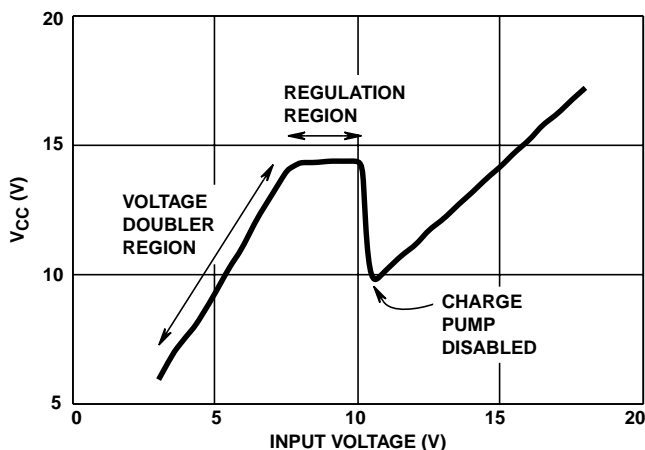
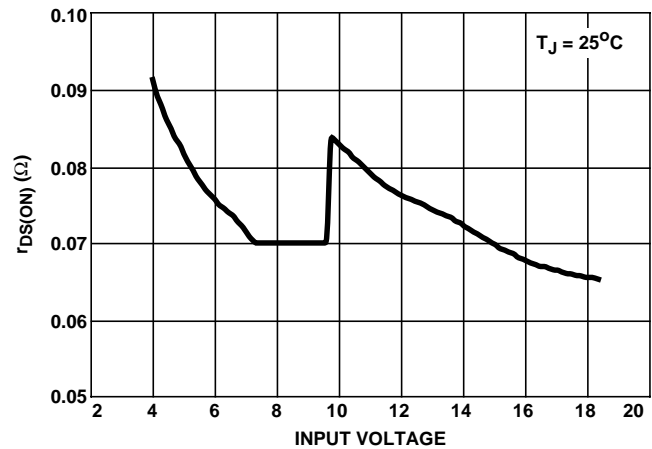
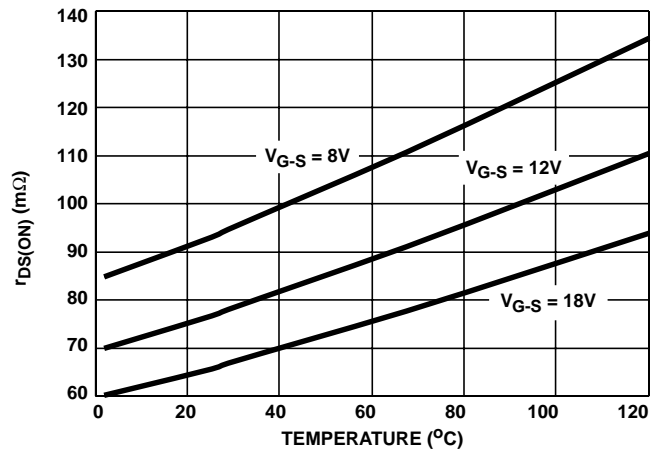

FIGURE 10. CHARGE PUMP REGULATOR INPUT VOLTAGE CHARACTERISTICS
FIGURE 14.  $r_{DS(ON)}$  vs INPUT VOLTAGE
FIGURE 15.  $r_{DS(ON)}$  vs JUNCTION TEMPERATURE
The charge pump regulator supplies control power ( $V_{\text{CC}}$ ) to the internal functions of the HIP5020. The charge pump operates for input voltage levels below 9.8V and is disabled for input voltages above 9.8V. Figure 10 shows the charge pump output voltage ( $V_{\text{CC}}$ ) as a function of the input voltage ( $V_{\text{IN}}$ ). For input voltages below 9.8V nominally, the charge pump operates in two regions - as a voltage doubler and as a voltage regulator. The charge pump operates as a normal voltage doubler when  $V_{\text{CC}}$  is below approximately 14.8V. The charge pump limits  $V_{\text{CC}}$  to approximately 14.8V in the regulation region. For input voltages above 9.8V, the charge pump is disabled and  $V_{\text{CC}}$  follows the input voltage less a diode drop.
Conduction losses are a significant portion of the power dissipation in a DC-DC converter. The HIP5020 conduction losses are the product of the square of the average output current and the MOSFET on-resistance -  $r_{DS(ON)}$ . The  $r_{DS(ON)}$  of the MOSFETs is a function of  $V_{CC}$  and junction temperature.  $V_{CC}$  changes with the input voltage as shown in Figure 10 above. Figure 14 shows the maximum  $r_{DS(ON)}$  of both MOSFETs as a function of input voltage for a junction temperature of 25°C. The junction temperature of the HIP5020 also effects  $r_{DS(ON)}$ . Figure 15 shows the  $r_{DS(ON)}$  as a function of temperature for three gate voltage levels. The  $r_{DS(ON)}$  can be estimated at a given input voltage and junction temperature as follows:
- 1) Assume that the gate voltage is equal to  $V_{CC}$ . Find the gate voltage at 25°C from Figure 10.
- 2) Multiply this number by the  $r_{DS(ON)}$  shown in Figure 15. Interpolate as necessary.